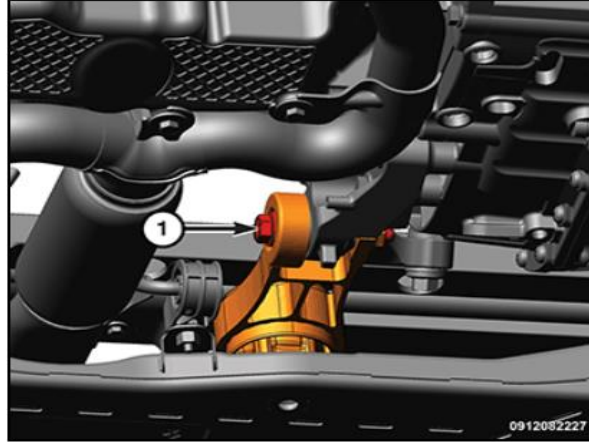

Fig 8. Rear Engine Torque Mount to Cradle
2. Tighten the rear engine torque mount to transmission bracket bolt (Fig 8. Labelled 1) to the proper (Torque Specifications).